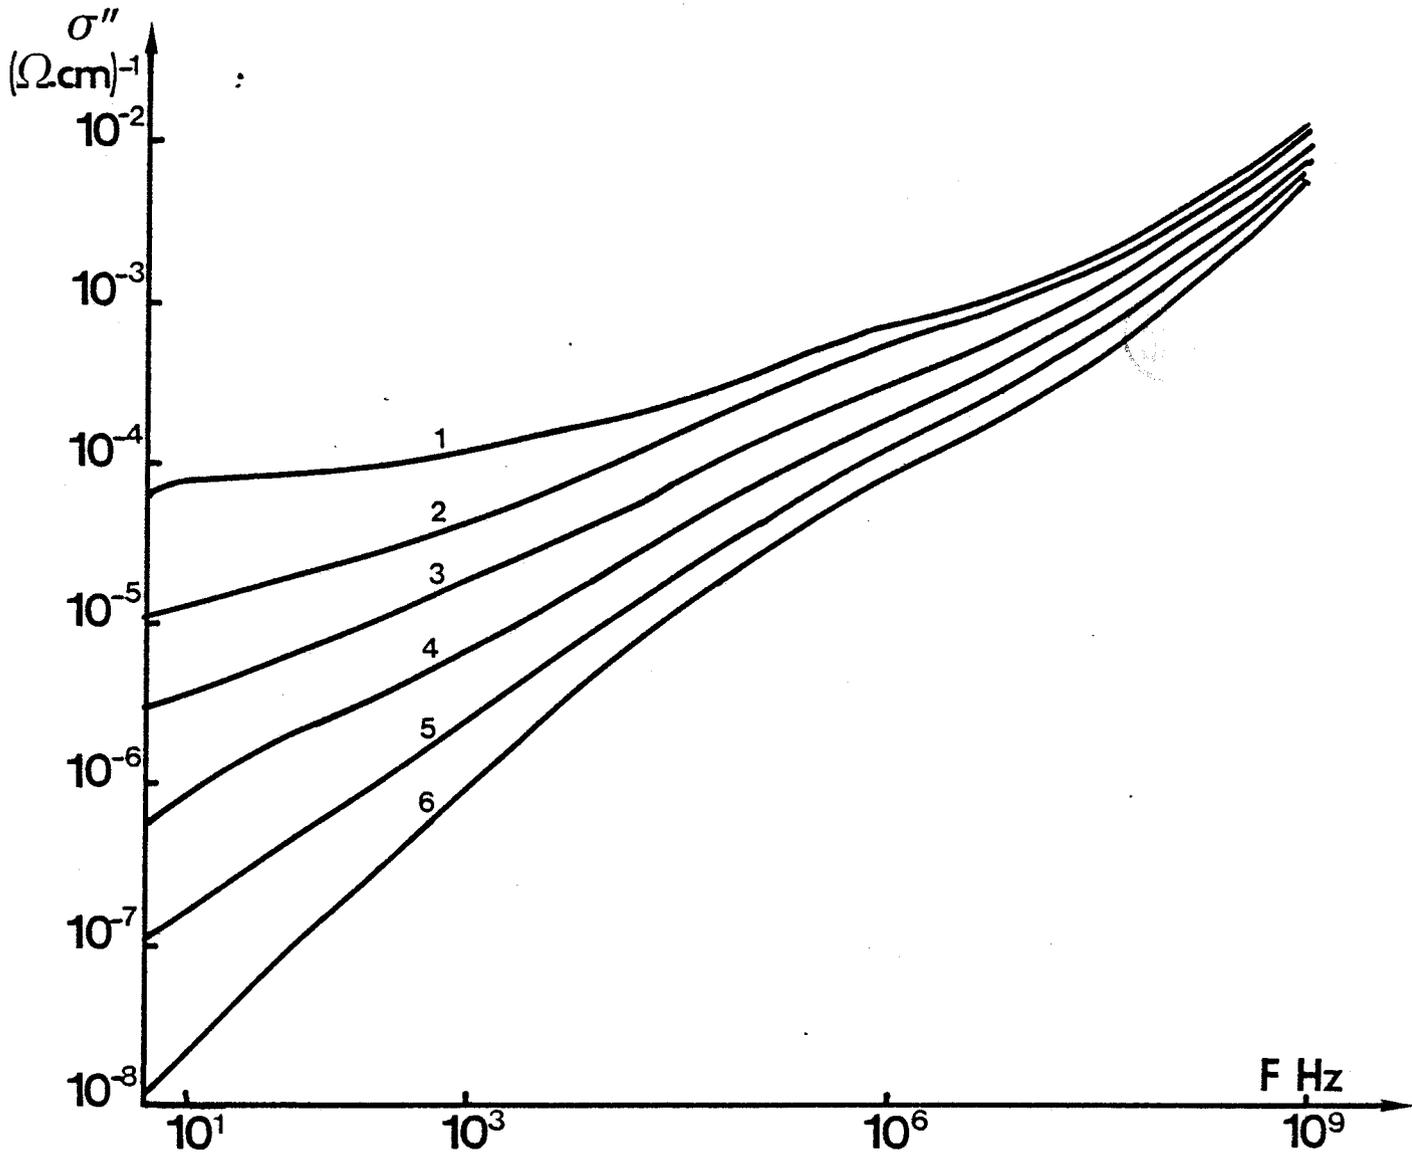

FIGURE F.1.10
- Figure F.1.10. $\sigma''(\omega, T)$